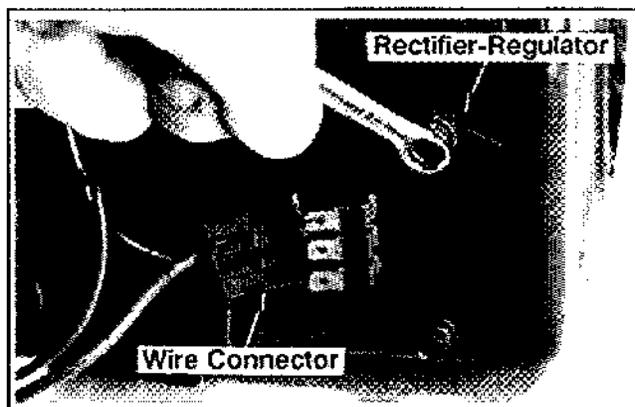

Figure 9-13. Removing Rectifier-Regulator.
1. Remove the wire connector from the rectifier-regulator. See Figure 9-13.